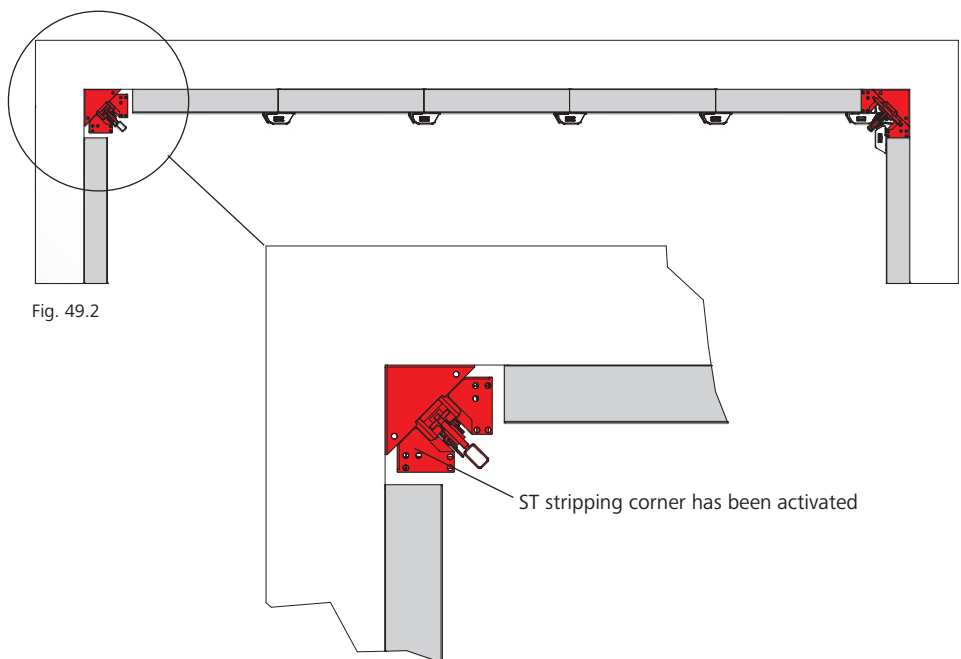

Fig. 49.2
2. Activate the ST stripping corner (Fig. 49.2 and pages ST-XT-46 to -48).